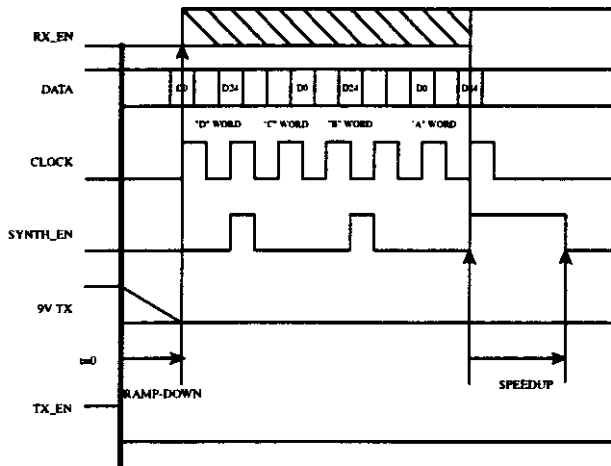

Figure 3-9 TX TO RX TIMING DIAGRAM
1. TX_EN is turned OFF. This signal is shaped. Refer to Figure 3-9.